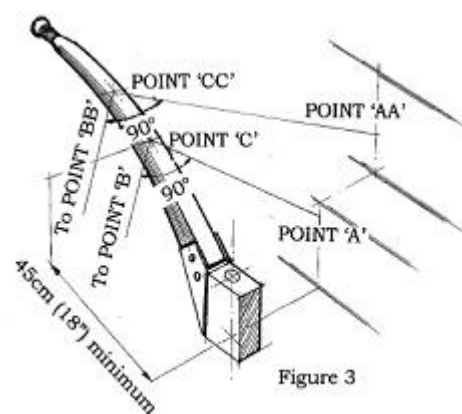

Figure 3
For boats with 'inboard' rudders (see Figure 3)
- a) It is important to get points 'A', 'B' and 'C' in Figure 3 so that the rope makes about a 90° angle at 'C'